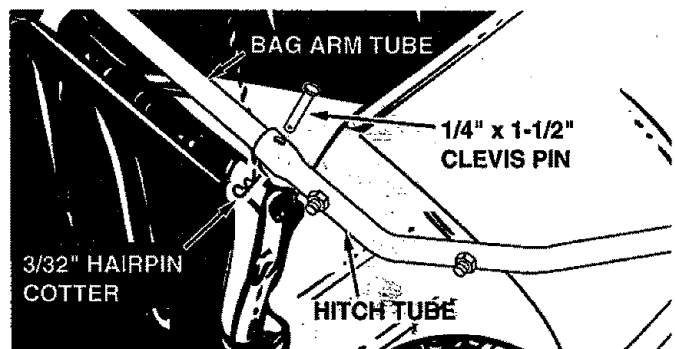

FIGURE 23
- To assemble the hopper bag to the sweeper, slide the ends of the bag arm tubes into the ends of the hitch tubes and secure with two 1/4" x 1-1/2" clevis pins and 3/32" hairpin cotters. See figure 23.